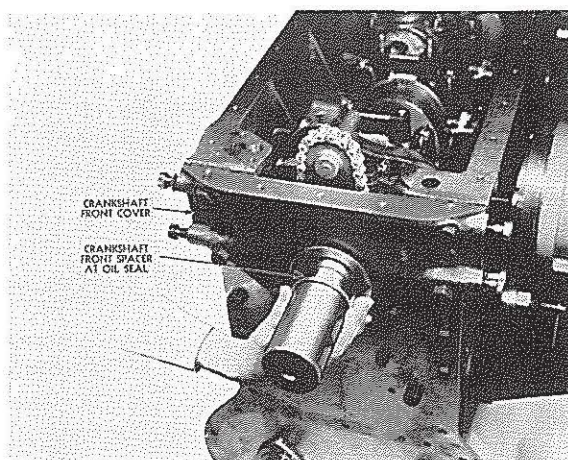

FIG. 5
4. Shellac new gasket to bolting flange of crankshaft front cover and attach to cylinder block with lockwashers and capscrews, finger tight only. Do not tighten capscrews until after front spacer is put in position as shown in Fig. 5.